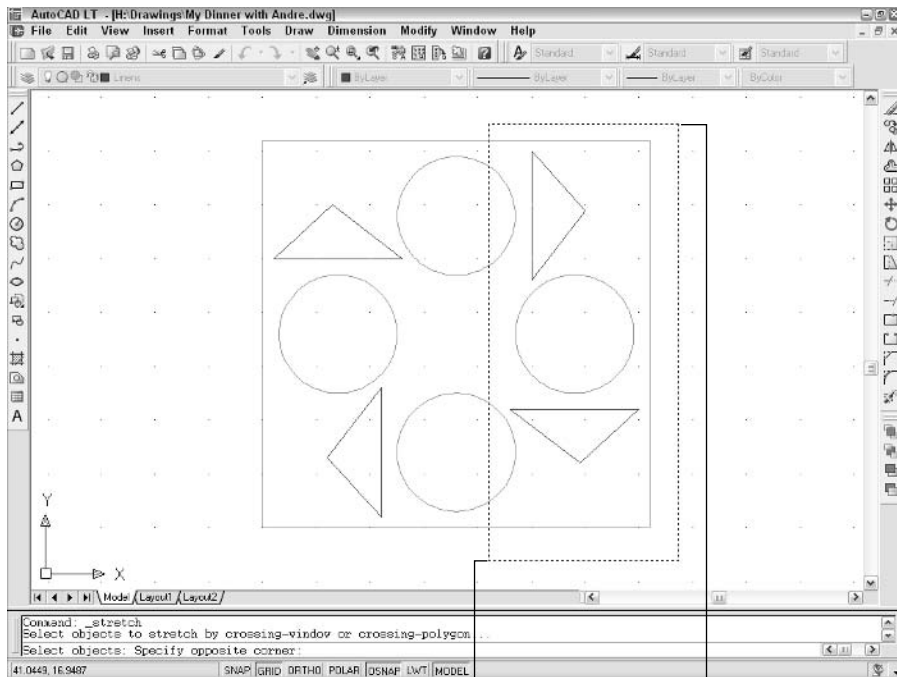

Figure 4-11:
2. Click a point above and to the right of the upper-right corner of the table (**Point 1** in Figure 4-11).
4. Click a point below and to the left of the lower-right corner of the table (**Point 2** in Figure 4-11).
The crossing box needs to enclose the plate and napkins on the right and approximately the right third of the table (refer to Figure 4-11).